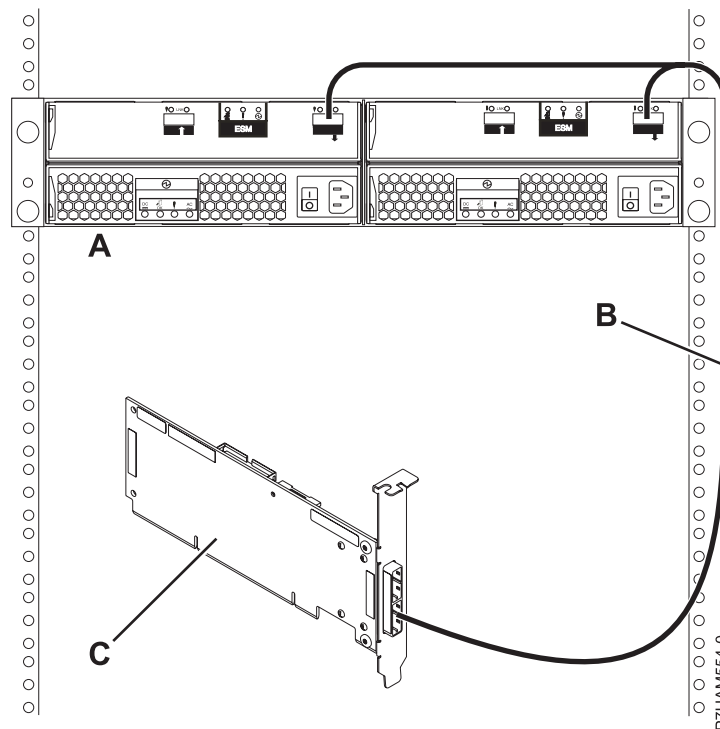

Figure 29. Connection of one 5886 disk drive enclosure to a single SAS adapter by using a YO cable
5. Perform the connection of one 5886 disk drive enclosure (**A**) to a single SAS adapter (**C**) by using a YO cable (**B**) as shown in Figure 29.